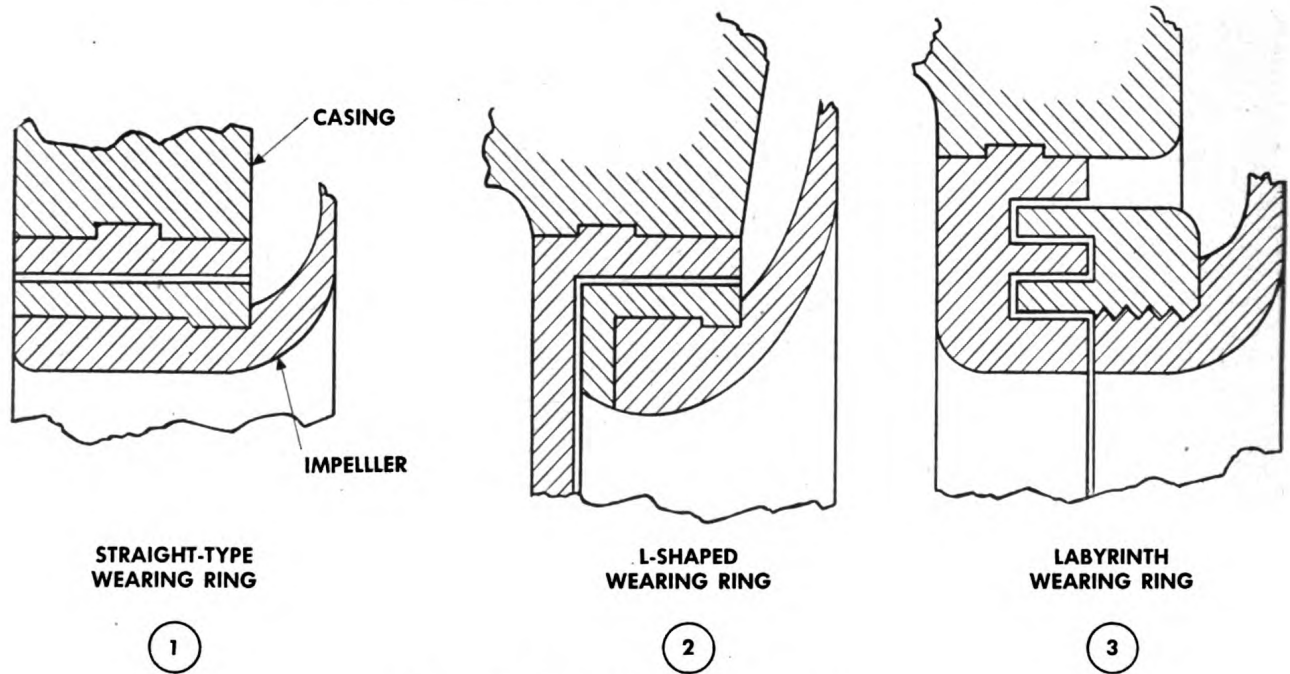

Figure 29. Types of wearing or sealing rings.
(1) Check bearing temperatures and lubrication (see par. 7).
(2) Note readings of suction and discharge pressure gauges if pump is so equipped, and determine cause for any unusual changes in pressure.
(3) Be sure all valves are wide open or properly set and screens are not clogged.
(4) Examine packing.
(5) Observe rate of flow if pump output is metered and investigate cause of any unusual changes.
(6) Check readings of instruments and meters on pump motor and determine cause for any changes in their values.
(7) Note direction of rotation.
2 **c. Check Wearing or Sealing Rings.** These rings seal discharge water from suction water in rotating pumps. They are not perfect seals and some leakage is permissible, but excessive leakage caused by worn sealing rings seriously affects pump efficiency. Therefore proper wearing-ring clearance is extremely important. In the straight type wearing ring (fig. 29①), the most common type, diametrical clearance need not be less than 0.025 inch and should not be greater than 0.050 inch. In the L-shaped type (fig. 29②), clearance in the space parallel to the shaft should be the same as for the straight type. However, clearance of the space at right angles to the shaft must be governed by end-play tolerances in the bearing. For specific information on clearances for L-shaped and labyrinth types (fig. 29③), consult the pump manufacturer.